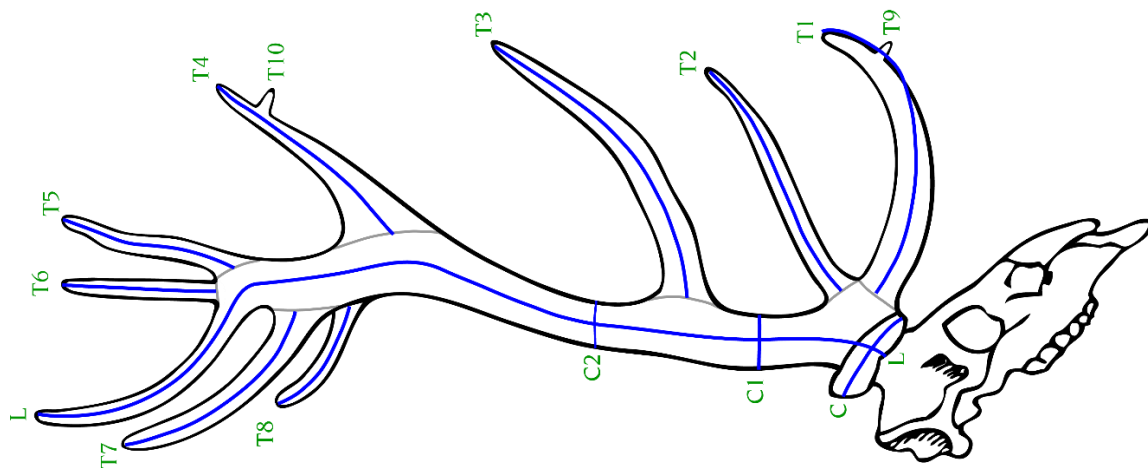

Figure 1
While red deer and their Asian relatives do not have NT tines under RW, the first three typical tines above the burr must be determined in order to take circumference measurements at the right locations; they are the brow tine, which projects forward, and the bez and trez, both of which point sideward and upward. (Figures 1 and 2, T1, T2, T3.) These 3 tines are nearly always the longest three below the crown. Any other tines below the crown are not considered typical.
2. Main beam. A cable is the preferred tool for measuring the main beam. Measure the main beam antler on the center of the outside curve from the lowest edge of the burr to the tip. (Figures 1 and 2, L) The tip is the point that is farthest from the burr and is nearly always the point that reaches the farthest back; the tip cannot be a tine off a tine. Before starting, mark the center points along the main beam to the tip with a pencil. The tape must not be pressed into the groove above the burr. Stay on the outside center of the main beam at all times; see GDI. (Figures 1 and 2)
3. Circumference. Use a steel tape with a ring, not a hook. Measure the burr (C), then measure the smallest circumference between T1 and T2 (C1), measure the smallest circumference between T2 and T3 (C2), and finally measure the smallest circumference between T3 and the crown (C3). All circumferences must be the smallest measurement that can be found and can only be taken between typical points. (Figures 1 and 2.) In case one typical tine is missing, the circumference is taken twice at the same place at the smallest point. As an example, if T3 is missing, C2 and C3 will fall in the same place between T2 and T4.